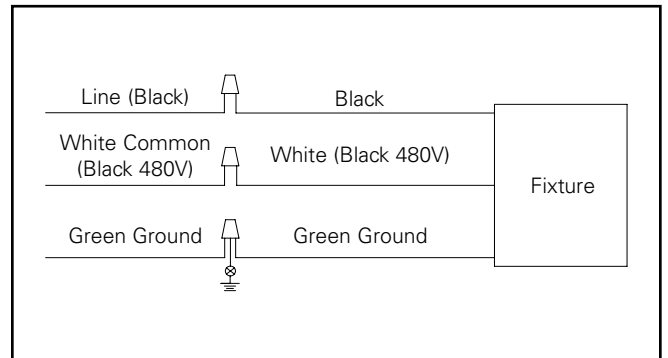

Figure 3.
4. Make wire connections inside the mounting arm. Refer to wire diagram for power connections (Figure 3). Connect the supply wires to appropriate luminaire leads.